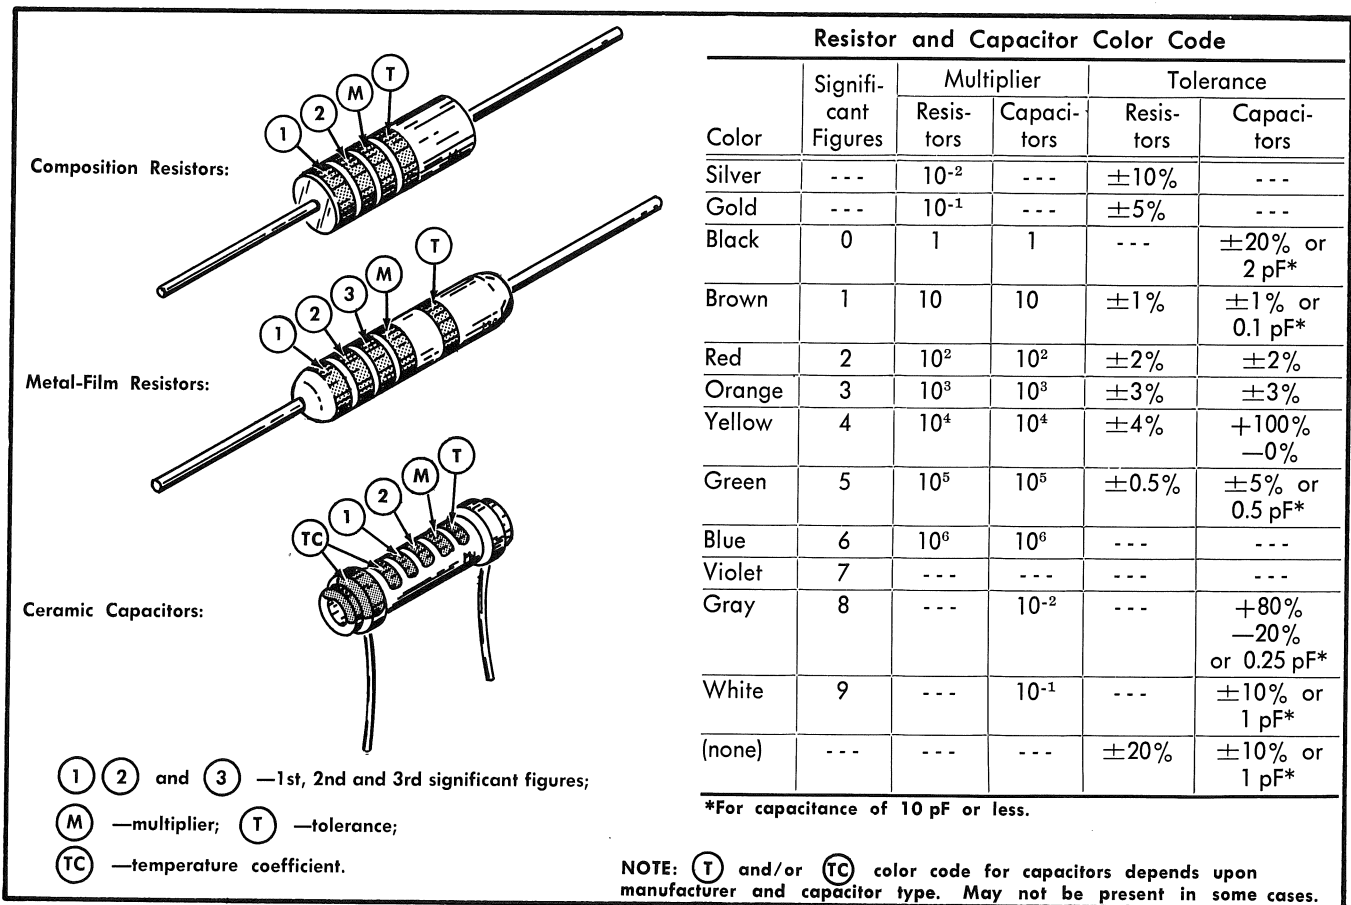

Fig. 4-1. Standard EIA color coding for resistors and capacitors.
**Resistor Color Code.** In addition to the composition resistors, some metal-film resistors are used in the instrument. Nearly all resistors are color-coded for resistance value and tolerance using EIA color code (a metal-film resistor may have the value printed on the body). Composition resistors have four stripes which represent two significant figures, the multiplier and the tolerance value (see Fig. 4-1). Metal-film resistors have five stripes which represent three significant figures, the multiplier and the tolerance value.
**Capacitor Marking.** The capacitance of a disc or electrolytic capacitor is marked in microfarads on the side of the component body. The white ceramic capacitors used in these instruments are color-coded in picofarads using a modified EIA code (see Fig. 4-1).